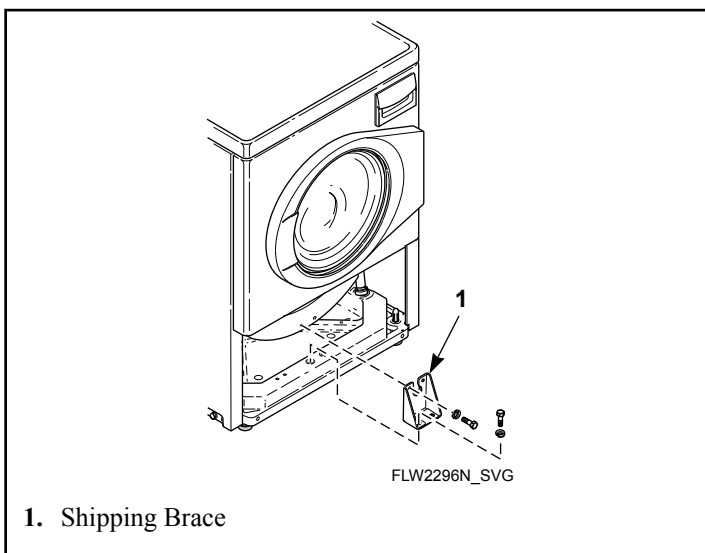

Figure 22
4. Attach shipping brace to weight and base using four bolts and washers. Refer to *Figure 22*.